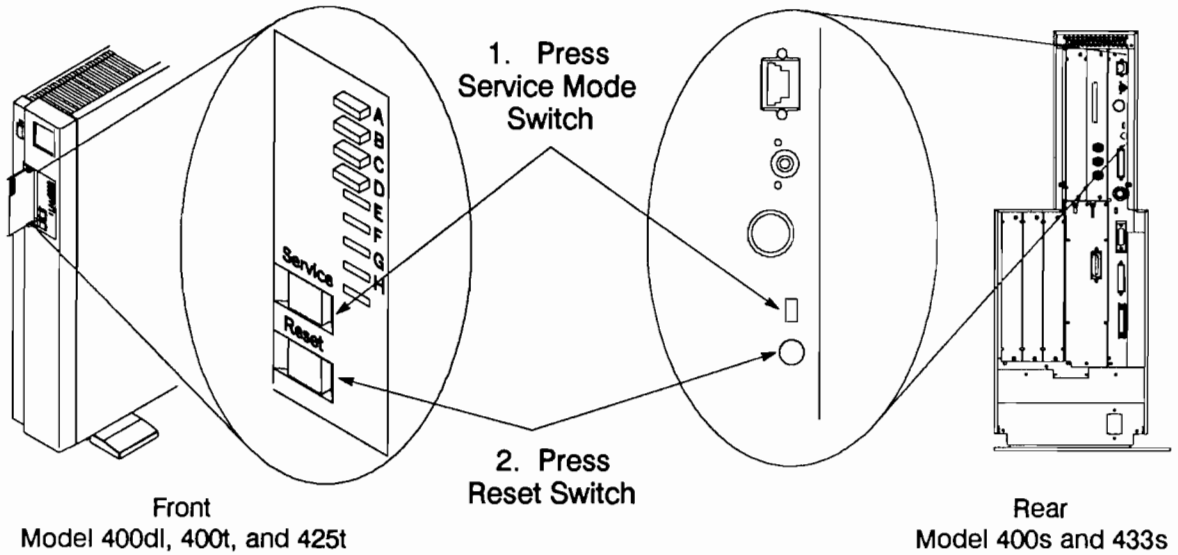

Figure 6-8. Restarting the Operating System
11. To restart the operating system, press the Service mode switch to set the system to Normal mode (Service LED is off). Press the Reset switch as shown in Figure 6-8.